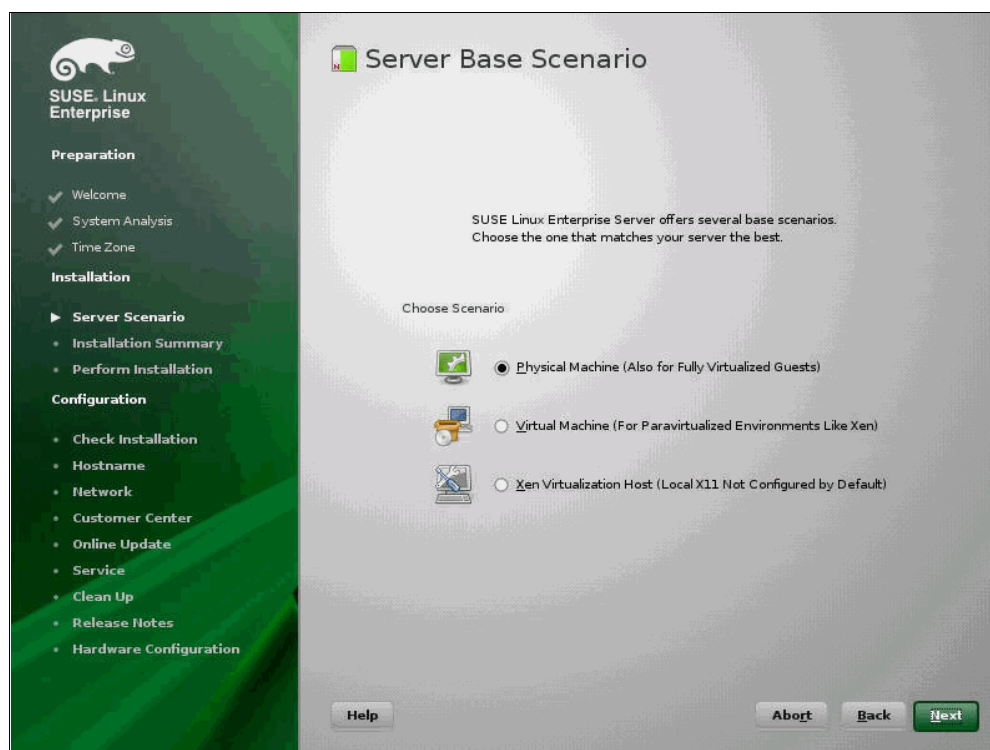

Figure 3-56 Selecting the Scenario option
12. Choose the Server Base Scenario which better matches your configuration, as shown Figure 3-56.